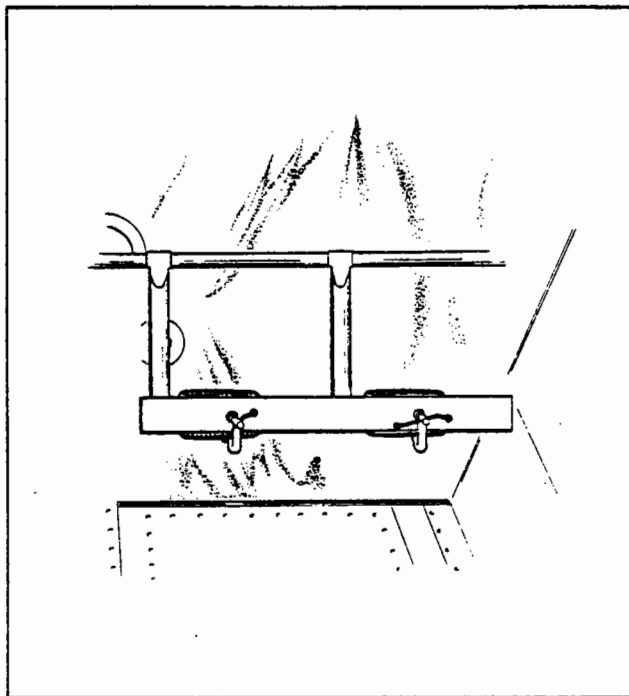

Figure 32-5. Clamping Rudder Pedals
7. Clamp the rudder pedals to align in a lateral position. (Refer to Figure 32-5.)